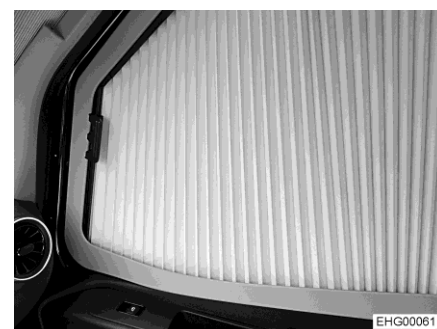

Fig. 69 Roman shade (front passenger's window)
- Pull Roman shade carefully to the opposite side until the magnetic catch holds the Roman shade (Fig. 69) in closed position.